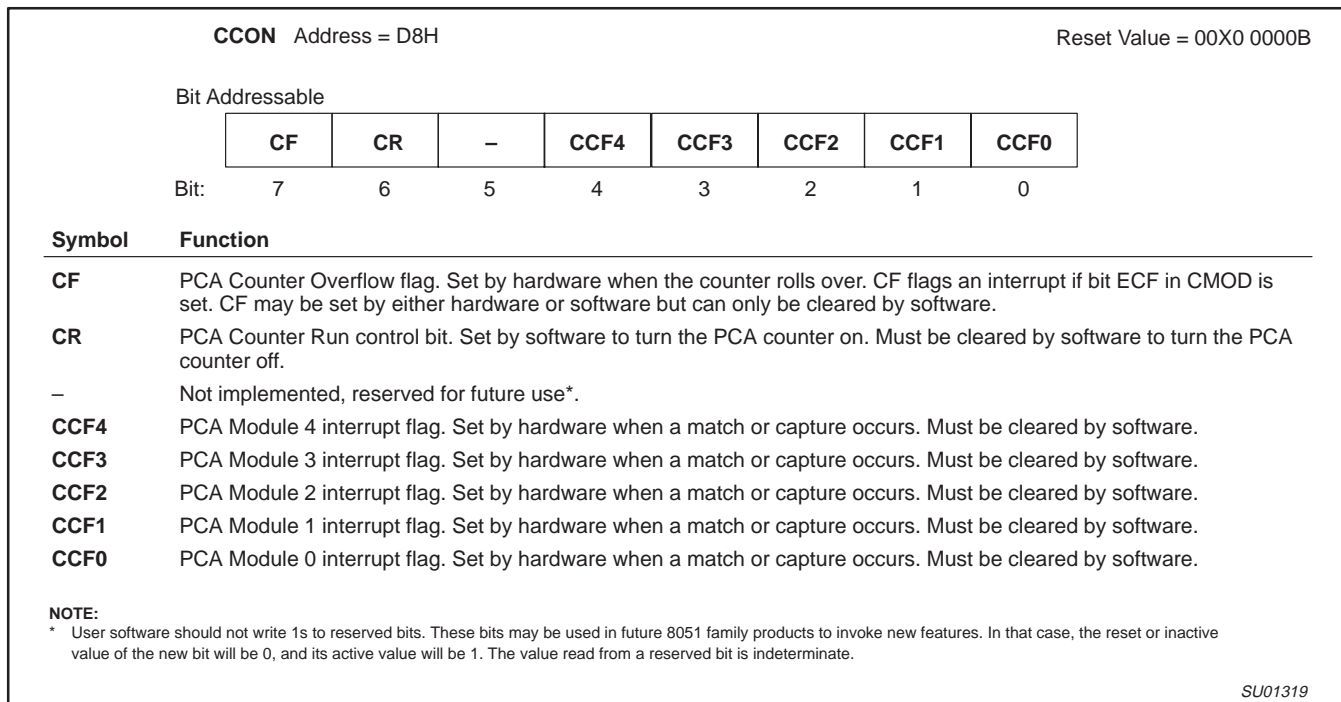

Figure 18. CCON: PCA Counter Control Register
The CCON SFR contains the run control bit for the PCA and the flags for the PCA timer (CF) and each module (refer to Figure 18). To run the PCA the CR bit (CCON.6) must be set by software. The